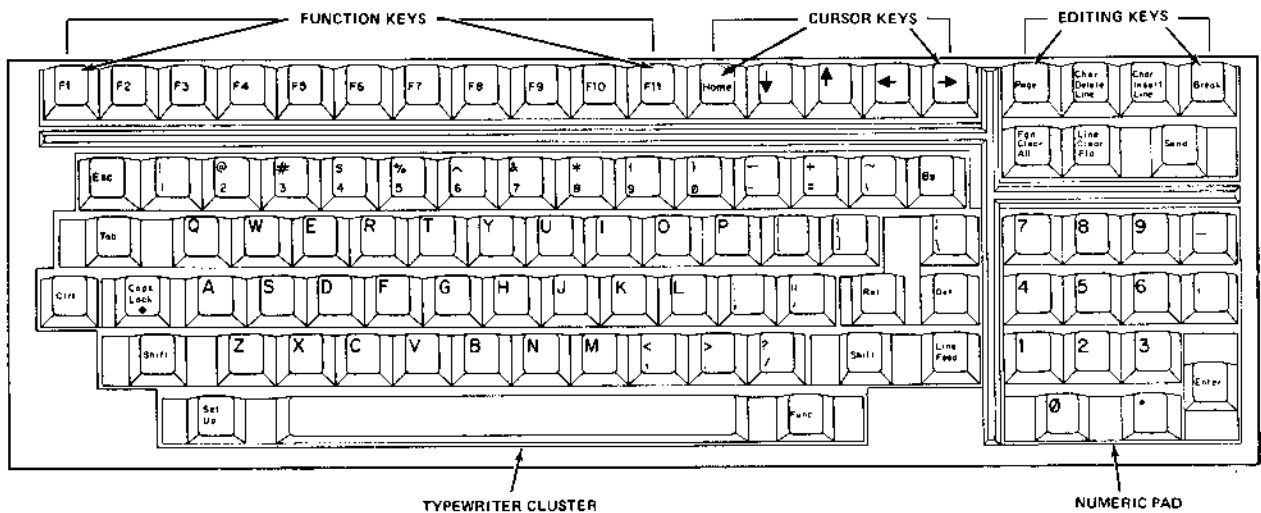

Figure 3-2. Keyboard
3.2.1 Introduction. The keyboard contains 2 clusters, the Qwerty Cluster and the Numeric Cluster as shown in figure 3-2. The typewriter and cursor keys automatically repeat if they are held down for longer than 3/4 second. This feature is called the typamatic mode. Depression
3.2.3 Numeric Cluster. The numeric cluster as shown in figure 3-2 is designed like a calculator pad and is used for easy numeric entries. All keys in the numeric cluster are typamatic with the exception of the enter key. As defined in table 3-2, the 14 keys of the numeric pad can be selected to be an alternate pre-programmed function cluster.